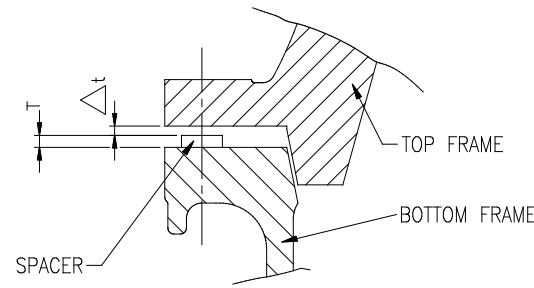

Fig. 6.13.2
3. Tighten the bolts again in the same sequence to reduce the clearance by a further $\frac{1}{3} \Delta t$. (Fig. 6.13.2).